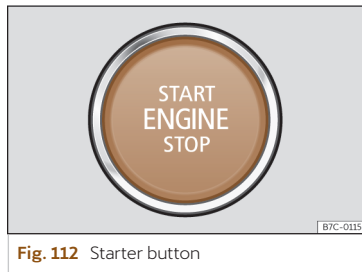

Fig. 112 Starter button
When entering the vehicle, the start button  **Fig. 112** flashes to draw attention to it.
- Press the start button >>> **Fig. 112** without pressing the accelerator. There must be a valid key in the vehicle for the engine to start. After starting the engine, the lighting of the **START ENGINE STOP** button remains fixed indicating that the engine is running¹⁾.
- Briefly press the start button >>> **Fig. 112**.